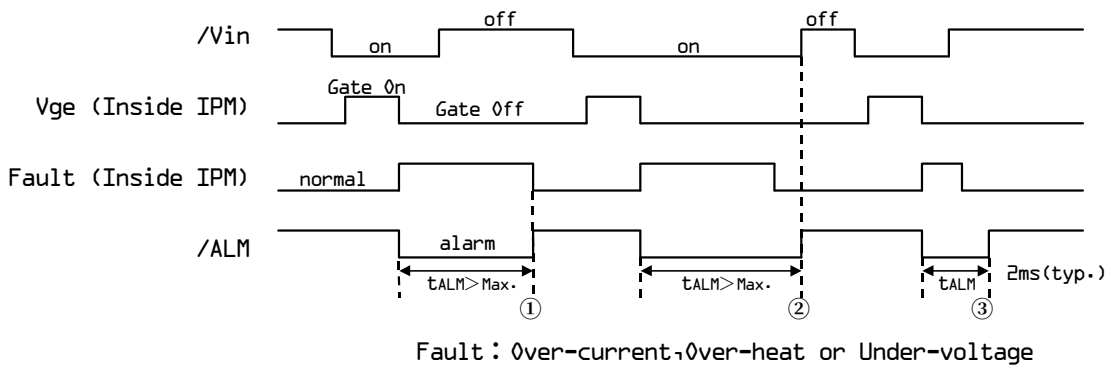

Figure 2. Input/Output Timing Diagram
| Alarm Signal Hold Time                         | $t_{ALM}$    | $T_c = -20^\circ\text{C}$ Fig.2               | 1.1  | -    | -    | ms       |
|                                                |              | $T_c = 25^\circ\text{C}$ Fig.2                | -    | 2.0  | -    | ms       |
|                                                |              | $T_c = 125^\circ\text{C}$ Fig.2               | -    | -    | 4.0  | ms       |
Necessary conditions for alarm reset (refer to ① to ③ in figure2.)
- ① This represents the case when a failure-causing Fault lasts for a period more than tALM. The alarm resets when the input Vin is OFF and the Fault has disappeared.
- ② This represents the case when the ON condition of the input Vin lasts for a period more than tALM. The alarm resets when the Vin turns OFF under no Fault conditions.
- ③ This represents the case when the Fault disappears and the Vin turns OFF within tALM. The alarm resets after lasting for a period of the specified time tALM.